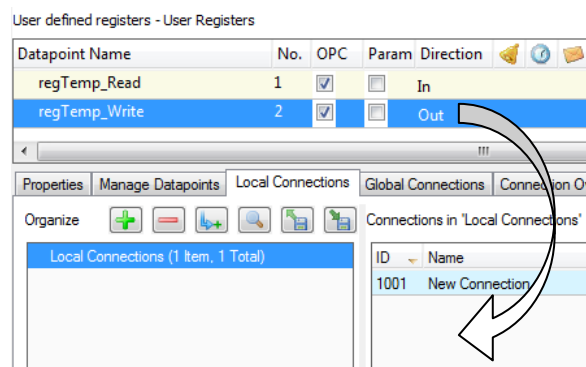

Figure 18: Create a connection with drag-and-drop.
2. In the properties view below the data point list click on the **Local Connections** tab as shown in Figure 18.
3. Then simply drag a data point from the data point list and drop it onto an empty area in the connections list as shown in Figure 18.